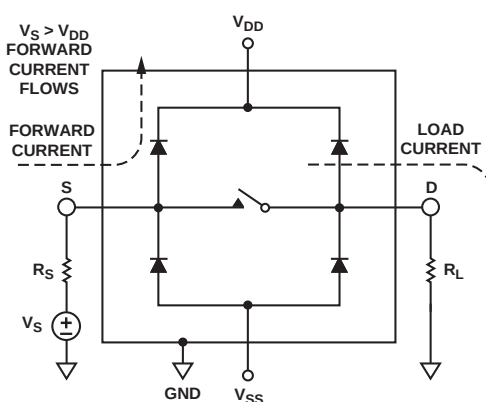

Figure 5. Fault paths.
1. Loss of power with signals present on analog inputs (Figure 5).